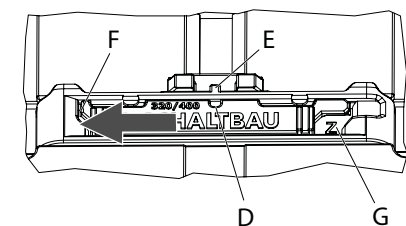

Fig. 24:
5. Use a slotted screwdriver to push the latch on the slider as far as it will go (about 4 to 5 mm) into the locked position (*Fig. 24/F*).
6. Ensure that the latch is in the locked position (*Fig. 24*).
- The latch must be pushed fully to the left into position (F)
- Recess (D) of the latch and bar (E) of the main body must be aligned over each other.
- Letter "Z" or a lock symbol is visible to the right on the slider (G).